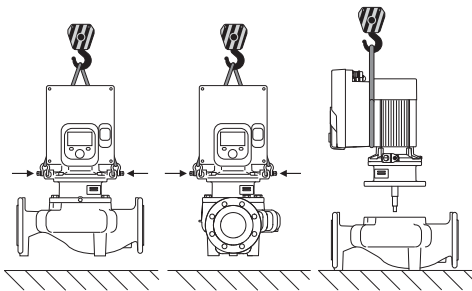

Fig. 6: Lifting direction with vertical motor shaft
The pump must be transported using approved lifting gear (hoist, block and tackle, etc.). The lifting gear must be attached to the transport lugs at the motor flange. (Fig. 6, shown here: lifting direction with vertical motor shaft).
2. Attach motor impeller unit (Fig. 4) to the transport lugs with suitable lifting equipment for protection. To prevent the unit from tipping, place a belt loop around the motor and adapter of the electronic module as shown in Fig. 6. When attaching, avoid damaging the electronic module.